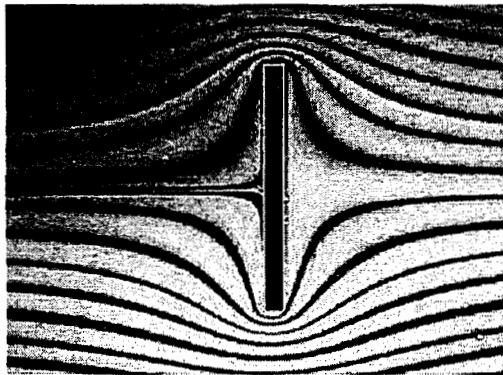
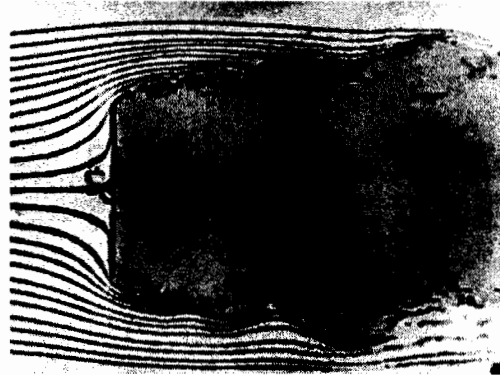
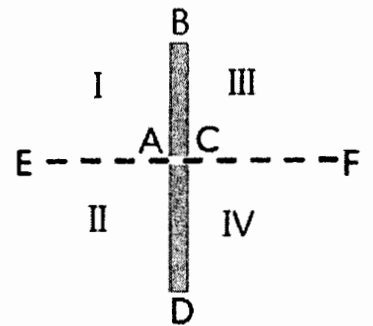

Fig 1a. Streamlines of flow 1
Fig 1b. Streamlines of flow 2
Fig 1c. Notations
1. Consider the 2D steady viscous flows of streamline patterns around a vertical plate in the experiment, as illustrated in Fig 1a (for flow 1) and Fig 1b (for flow2) below. We mark four points A, B, C, D on the plate, two far-away points E, F and four surrounding regions I, II, III, IV in Fig 1c. Let U =approaching flow velocity, L =plate length, t =plate thickness, μ =fluid viscosity, ρ =fluid density. Please answer briefly:
- (A) Define the best flow Reynolds number (Re); What are flow directions possible in Figs 1a and 1b? Which is larger in Re between two flows? (5%)
- (B) In Fig 1a, the pattern is one of the Hele-Shaw flow. Why are the streamlines of this viscous flow similar to a potential flow of inviscid fluid? Explain. (5%)
- (C) In Fig 1b, what are the special flow features found at points B, D? What are points A & C called? Also, what is name of flow regions III and IV? Is this flow laminar or turbulent, why? (5%)
- (D) In Fig 1a, discuss the variation of velocity, acceleration (in both magnitude and direction) and pressure both along the streamline EA (5%) and along the nearest streamline turning around point B (5%);
- (E) Compare the drag and lift forces of two flows? What are these two forces coming from? (5%)